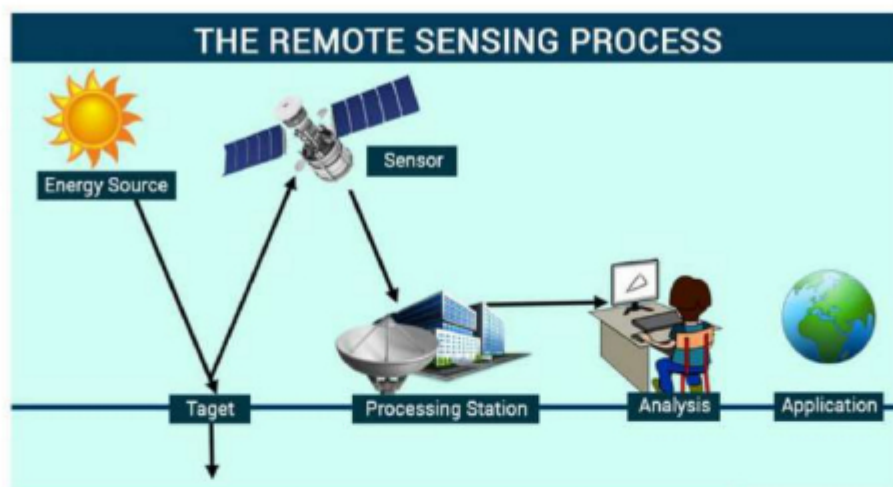

Fig. 6.2 Remote sensing process (Source to ultimate
- Remote sensing is technique of deriving information about objects on the surface of the earth without physically contact into them. This process involves making observations using sensors mounted on platforms (aircrafts and satellites) which are at considerable height from earth surface and recording the observations on suitable medium. This is shown in Fig. 6.2